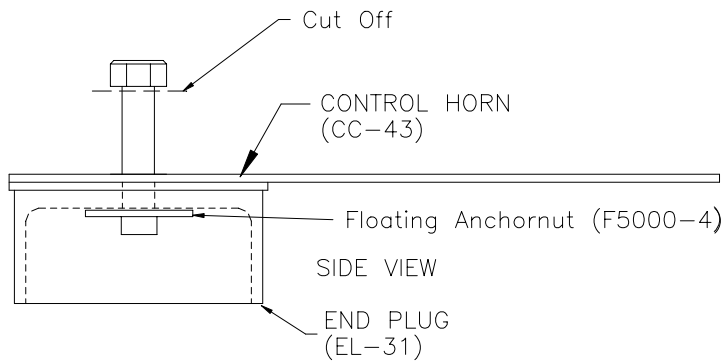

Figure 15.8.5
- 8) On the other right and left assembly, install an anchor nut on the EL-31 as shown in Figure 15.8.5.